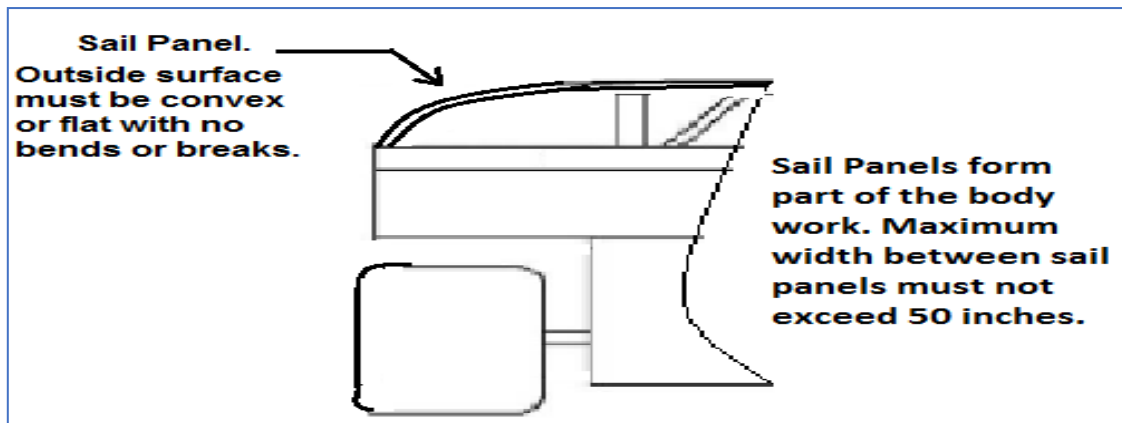

Figure 9
10.2 The Sail Panel outer surface profile must be flat or convex (Figure 9).